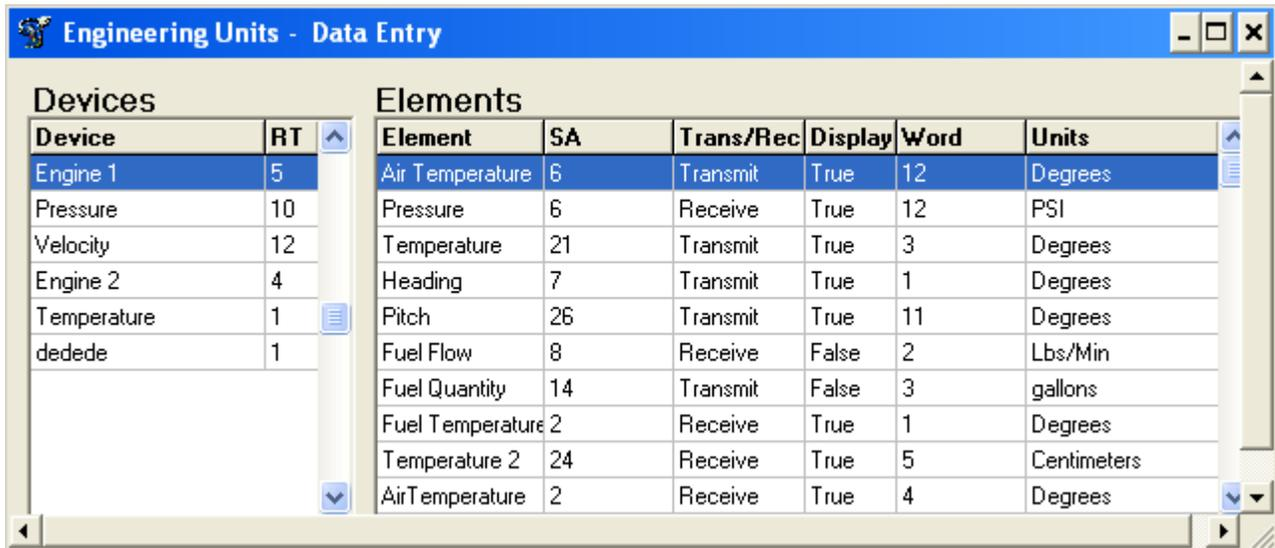

Figure 4-13 Engineering Units – Data Entry Properties Box
1. From the **Sequential Monitor Mode Screen Menu bar**, select **Setup > Edit Database**, to display the **Engineering Units - Data Entry Properties box**. See Figure 4-13: